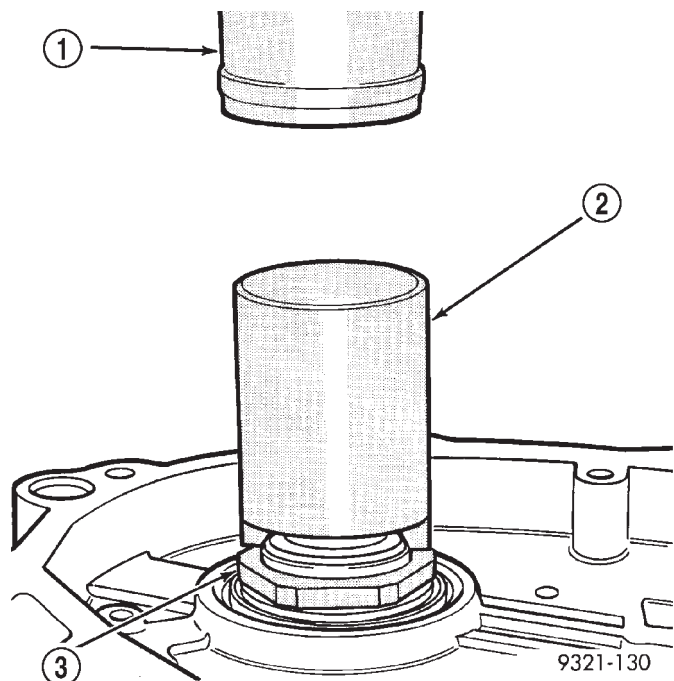

Fig. 310 Staking Output Shaft Nut
(8) The new nut must be staked after the correct turning torque is obtained (Fig. 310). Use special tool 6639 to stake output shaft nut and special tool 6589 to stake transfer shaft.